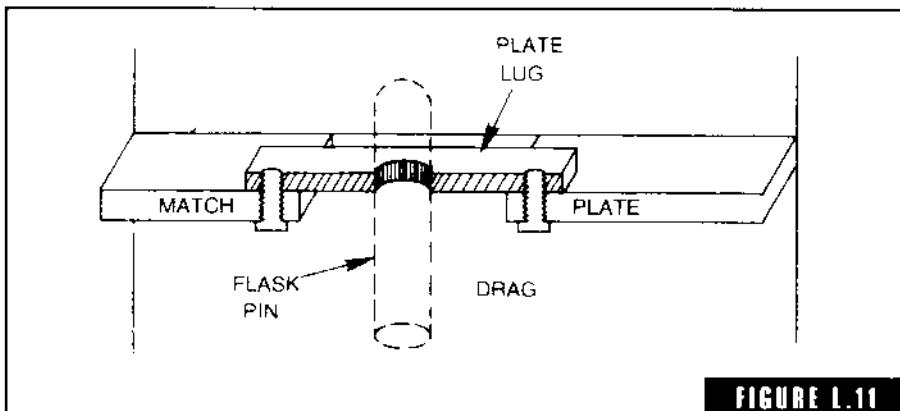

FIGURE L.11
**lugs, matchplate** Metal lugs attached to the ears of a matchplate that match the flask pin shape (Fig. L-11). The lugs follow the drag pins as the plate is lifted (drawn), guiding the plate straight up.